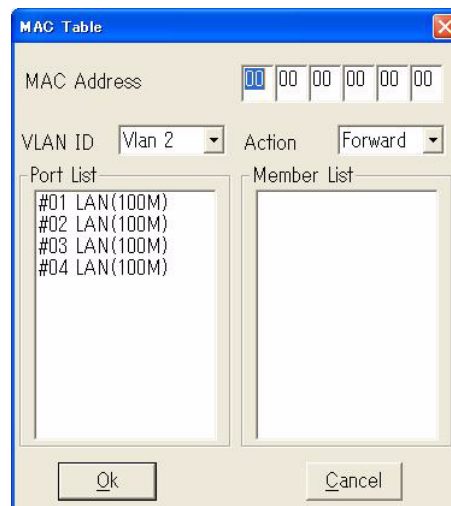

Fig. 4-4-75 MAC Table Parameter Setting
- 2 Select FE or FEP card in left sub-window, then click **Add** button. *Fig. 4-4-75* appears: